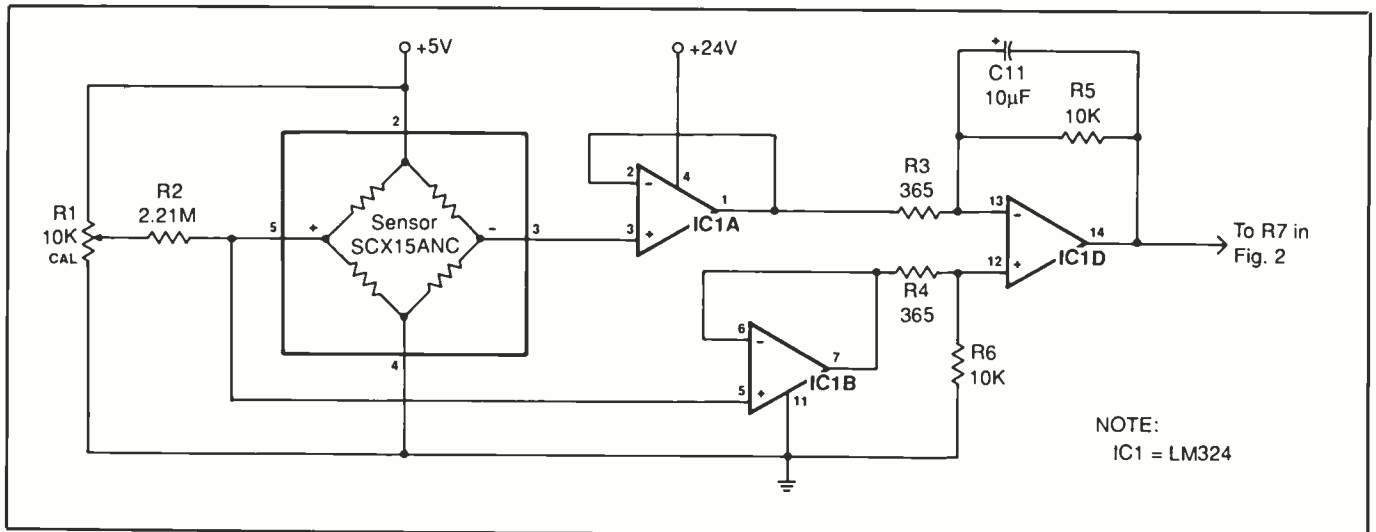

Fig. 1. Schematic diagram of analog portion of digital barometer's circuitry.
*Fig. 1. An example of a test setup for checking a transformer. This arrangement is not very useful in practical testing situations because  $R_L$  often must have a very low ohmic value and very high power rating.*
In Fig. 1 is shown a simple circuit in which load resistance  $R_L$  is used to pass the rated secondary current of the transformer at the predetermined voltage. This arrangement is fine for example purposes only. In real application, however, this setup can lead to a problem. That is, if the rated current is 10 amperes and secondary potential is 12 volts ac, the resistance is  $10/12 = 1.2$  ohms, based on the equation  $R_L = V/I$  where  $V$  and  $I$  are the rated voltage and current, respectively. By extension,  $R_L$  will dissipate 120 watts, based on the equation  $P = IV$ , where  $P$  is power in
watts. Therefore, the problem with the Fig. 1 test arrangement is that 1.2-ohm, 120-watt resistors are virtually nonexistent.
At the service bench, the transformer should be tested while it is operated with the load (circuitry) for which it was designed to be used. The circuit is substituted for  $R_L$  and the switch is temporarily connected between the two as shown in Fig. 1. Inclusion of the switch permits the person doing the testing to check on-load and off-load voltages. This arrangement is better than using an artificial load because the voltage parameter is the one actually used in the circuit.
Now refer to the schematic diagram of the detection portion of the project shown in Fig. 1. The pressure sensor used here employs integrated-circuit technology. It consists of four resistors on a ceramic substrate and connected in a Wheatstone bridge configuration. This bridge circuit is driven by a stable 15-volt dc source.